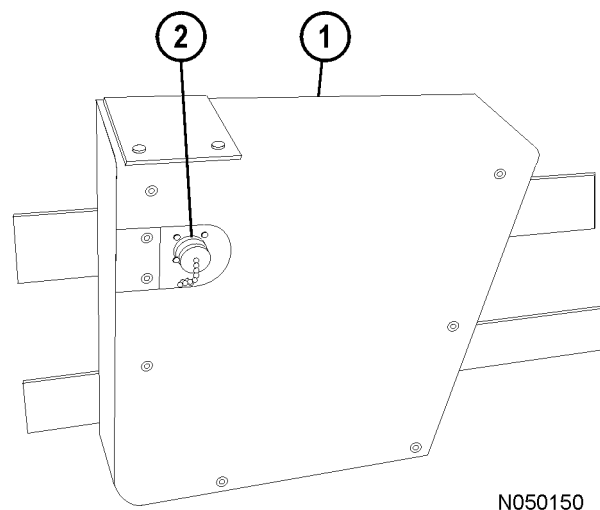

FIGURE 32-4. PAYLOAD METER III
Payload meter (1, Figure 32-4) and download connector (2) are used to provide management with operational data such as tonnage hauled and cycle times. The download connector is to be used with a special cable to allow the payload meter to communicate with a portable computer